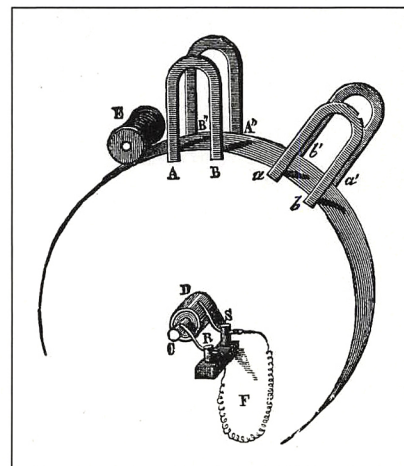

Fig. 2. Rotor disc of *Alliance machine*. (Source: [8].)
To be certain of the frequency actually in use, it is necessary to determine by calculation, using number of magnetic poles and operating speed. The Alliance machine at La Heve had 16 bobbins (poles) on each rotor disc and operated at 400 turns (see Fig. 2). When this information is used in Equation (1), the answer is 53-Hz.